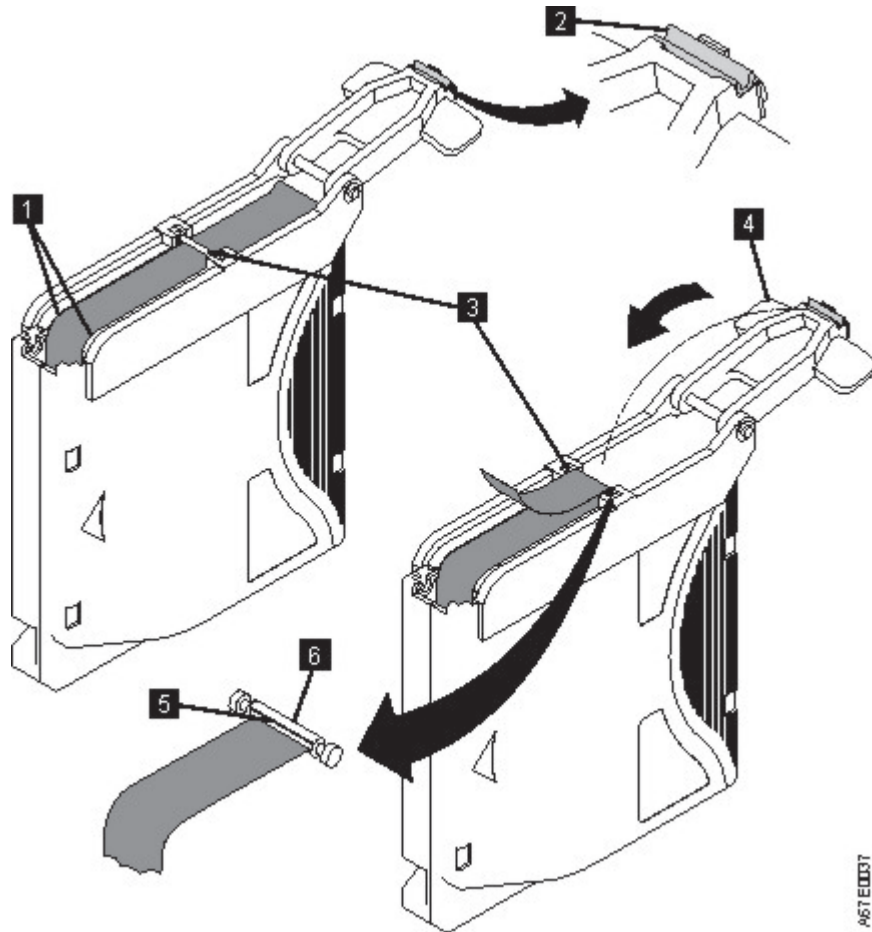

Figure 102. Attaching the leader pin to the tape
7. Position the tape in the alignment groove of the leader pin attach tool (see **1** in Figure 102 on page 164).
8. Place a new C-clip into the retention groove **2** (Figure 102 on page 164) on the leader pin attachment tool and make sure that the clip's open side faces up.
9. Place the leader pin (from step 6) into the cavity **3** (Figure 102 on page 164) of the leader pin attach tool.
10. Fold the tape over the leader pin and hold it with your fingers (see Figure 102 on page 164).